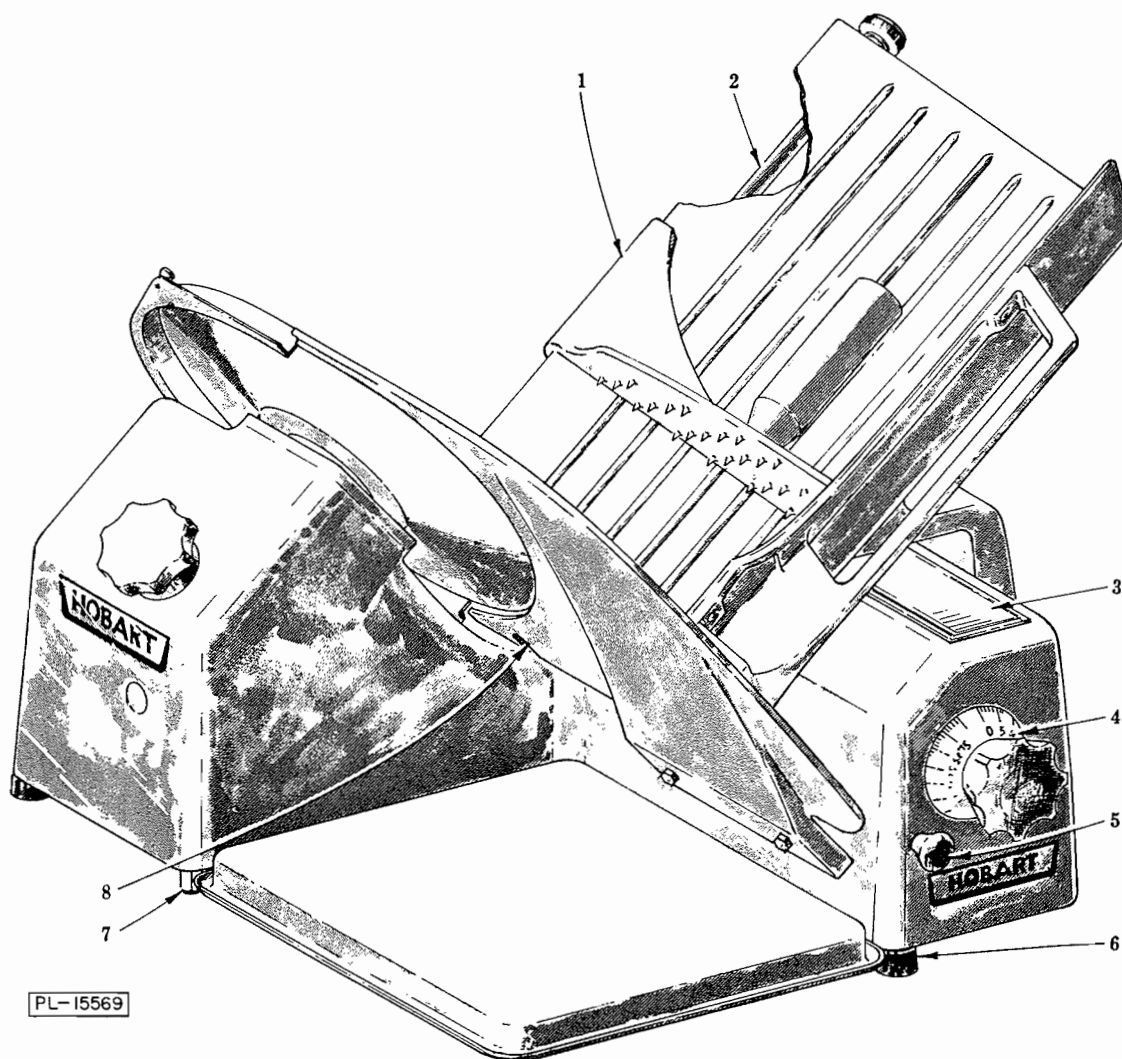

Fig. 1
When the slicer is packed for shipment, the three rubber feet (6, Fig. 1) and one helper foot (7, Fig. 1) are assembled in place. The helper foot does not touch the counter or table and prevents the slicer from tipping.
Before making electrical connections, CHECK THE SPECIFICATIONS ON THE NAME PLATE (3, Fig. 1), TO MAKE SURE THEY AGREE WITH THOSE OF YOUR ELECTRICAL SERVICE.
The knob or dial (4, Fig. 1) adjusts the thickness of the slices cut. The numbers on the dial indicate actual measurements in .010". For
This machine has been designed so a minimum effort is required to hold and slice pieces of various shapes and sizes. The shape of the carriage and inclined position make it unnecessary to use holding devices for large items of regular shape, such as cold boiled ham, loaf meats and picnic cuts. For holding odd shapes or short end pieces, use the meat grip (1, Fig. 1). Hold the handle in your right hand, and press the grip down on the meat at a convenient location. The carriage can then be moved back and forth with the same hand that holds the grip. The left hand is then free to receive the slices as they come from the knife. The slices may be stacked on the tray surface which is easily kept clean. Other trays or platters may be used if so desired. The slicer is turned "ON" and "OFF" by the illuminated switch (5, Fig. 1) (pull to start, push to stop).
6.4 Unscrew the thumb screw on the sharpener until the sharpener slips upward into the slot (8, Fig. 1) at the bottom of the gauge plate. Push the sharpener firmly upward with the right hand to remove any rocking tendency. Tighten the thumb screw with the left hand.